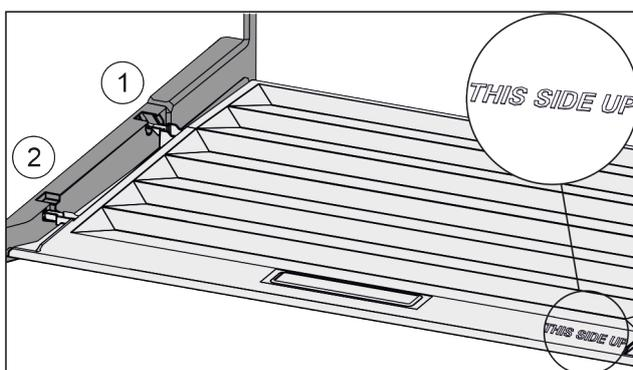

Fig. 131
- ▶ Insert the lip of the cover over the opening of the rear bracket Fig. 131 (1) and click into place Fig. 131 (2).